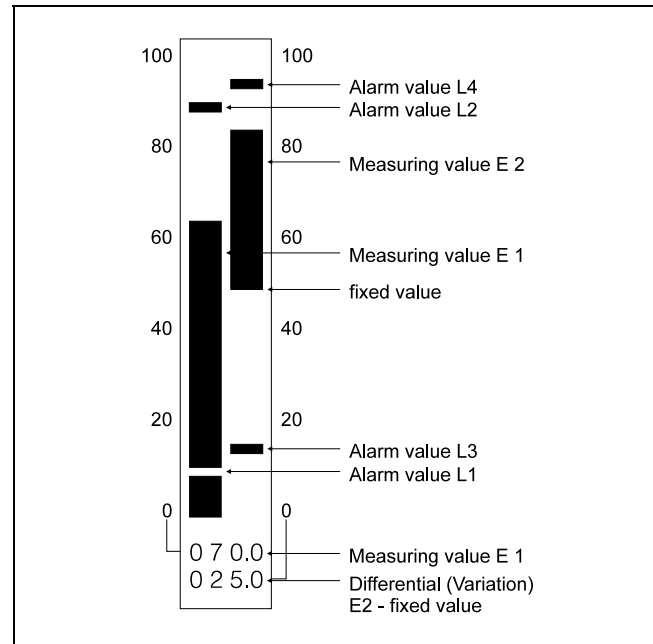

Fig. 18 Example: differential (deviation) display E2 – “fixed value” on channel 2
- if E2 is greater than the fixed value, the bar rises up and the deviation is positive (see fig. 18)